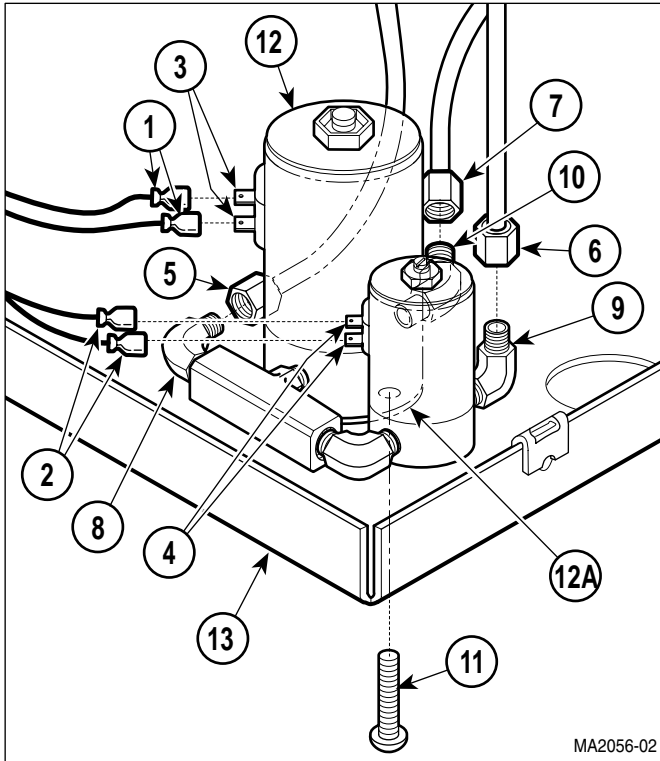

Figure 4-10. Vent Solenoid Removal / Installation
- (1) Drain water from condensing tank.
- (2) Remove back panel (Refer to para 4.5).
- (3) Tag and disconnect two wires (1, Figure 4-10) from terminals (3).
- (4) Tag and disconnect two wires (2) from terminals (4).
- (5) Disconnect three tubes (5 thru 7) from elbows (8 thru 10).
- (6) Remove two screws (11) from bottom of manifold assembly (12).
- (7) Install spacer (12A, Figure 4-10) and manifold assembly (12) on base (13) and secure using two screws (11).
- (8) Connect three tubes (5 thru 7) to elbows (8 thru 10).
- (9) Connect two wires (2) to terminals (4).
- (10) Connect two wires (1) to terminals (3).
- (11) Install back panel (Refer to para 4.5).
- (12) Refill condensing tank with distilled water.